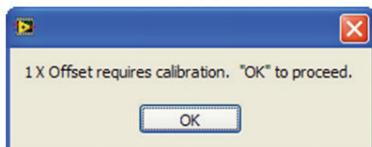

Figure 6.5
5. Next, the calibration software determines if the zero reading is within desired limits or not. If zero reading is within desired limits, then the software displays a message saying that calibration is already within specifications. If the zero reading is not within the desired limits, it displays a message as shown in Figure 6.5.
5. Next, the calibration software determines if the zero reading is within desired limits or not. If zero reading is within desired limits, the software displays a message saying that calibration is already within specifications. If zero reading is not within the desired limits, it displays a message similar to that in Figure 6.5.